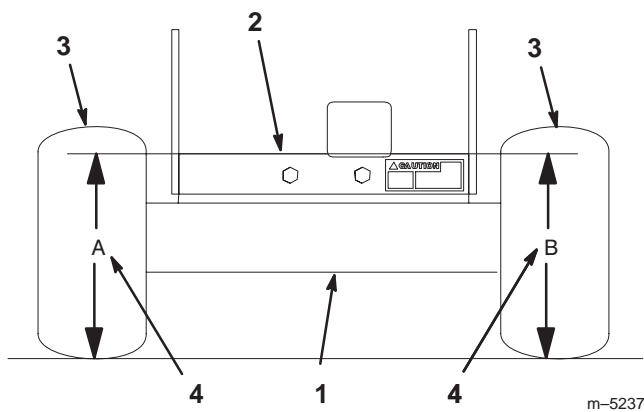

Figure 49
3. Measure engine deck height at location A (Fig. 49).
4. Measure engine deck height at location B (Fig. 49).